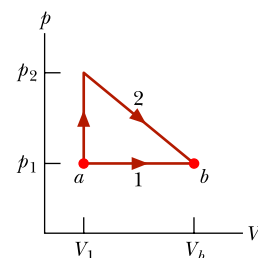

Figure 18.37 Problem 98.
**98** The  $p$ - $V$  diagram in Fig. 18.37 shows two paths along which a sample of gas can be taken from state  $a$  to state  $b$ , where  $V_b = 3.0V_1$ . Path 1 requires that energy equal to  $5.0p_1V_1$  be transferred to the gas as heat. Path 2 requires that energy equal to  $5.5p_1V_1$  be transferred to the gas as heat. What is the ratio  $p_2/p_1$ ?